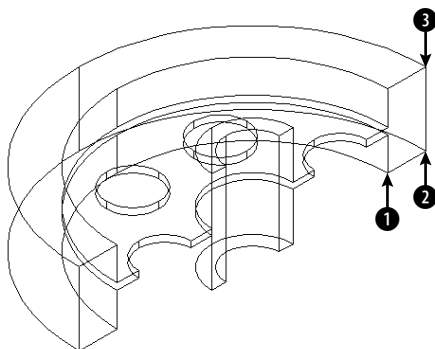

Figure 24-25: This 3D model was sliced and can now be mirrored.
1. If you have `ab24-04.dwg` open from the previous exercise, use it. Do a `regen` to remove the hidden view. If you don't have it open, open it from your `AutoCAD Bible` folder or from the `Results` folder of the CD-ROM. Make sure `OSNAP` is on and set a running object snap for endpoint. If you don't have the Solids Editing toolbar open, right-click any toolbar and choose `Solids Editing` from the toolbar list. The drawing is shown in Figure 24-25.
Specify first point of mirror plane (3 points) or [Object/Last/Zaxis/View/XY/YZ/ZX/3points] <3points>: *Pick ❶ in Figure 24-25.*